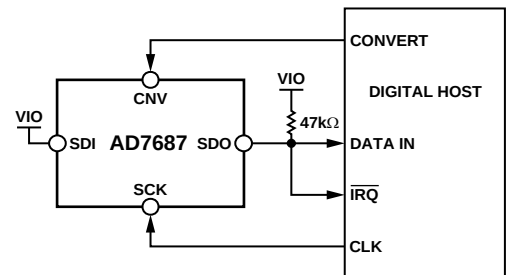
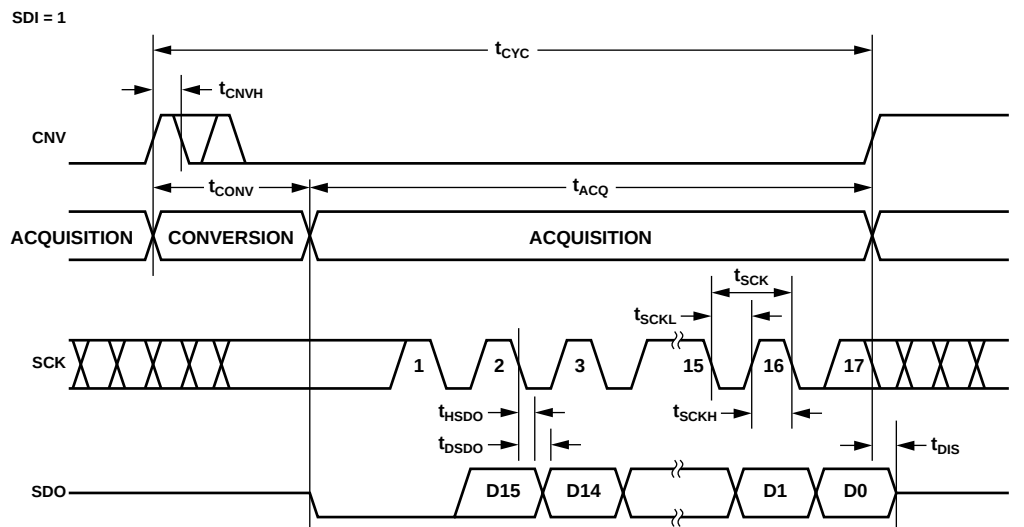
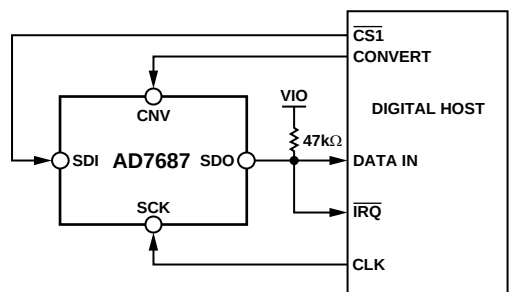
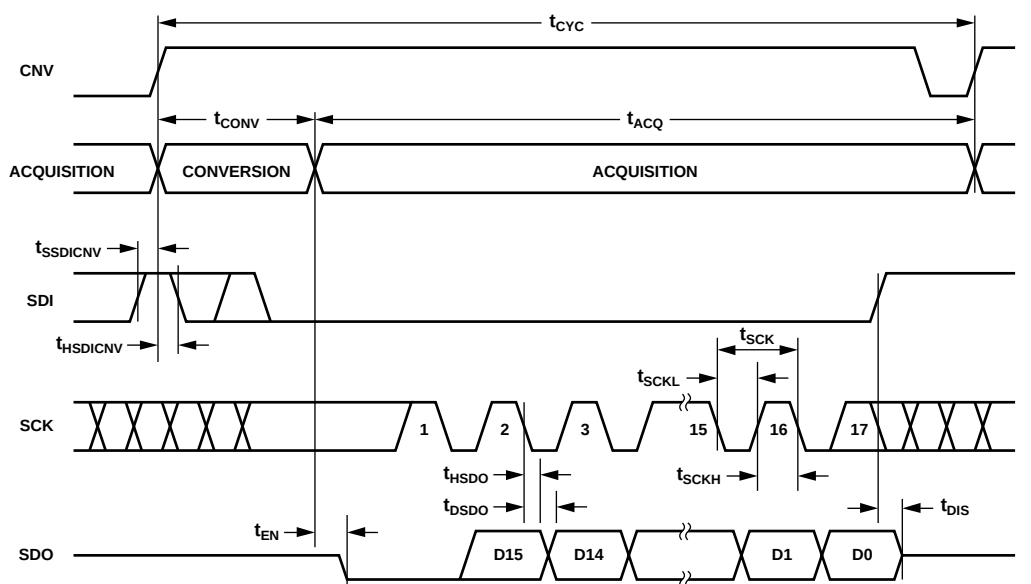

Figure 36. $\overline{\text{CS}}$ Mode, 3-Wire with BUSY Indicator Connection Diagram (SDI High)
Figure 37. $\overline{\text{CS}}$ Mode, 3-Wire with BUSY Indicator Serial Interface Timing (SDI High)
Figure 40. $\overline{CS}$ Mode, 4-Wire with BUSY Indicator Connection Diagram
Figure 41. $\overline{CS}$ Mode, 4-Wire with BUSY Indicator Serial Interface Timing
- In the $\overline{CS}$ mode if CNV or SDI is low when the ADC conversion ends (see Figure 37 and Figure 41).
Figure 36 shows the connection diagram and Figure 37 gives the corresponding timing.
Figure 40 shows the connection diagram and Figure 41 gives the corresponding timing.